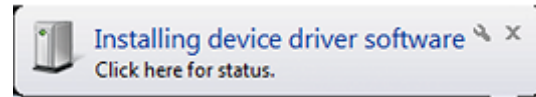

Figure 13. **Installing device driver software** Message
1. Verify that the SDP-B board is connected to the PC using the USB cable. When connected, the window in Figure 13 appears in the task bar and Windows installs any necessary drivers.